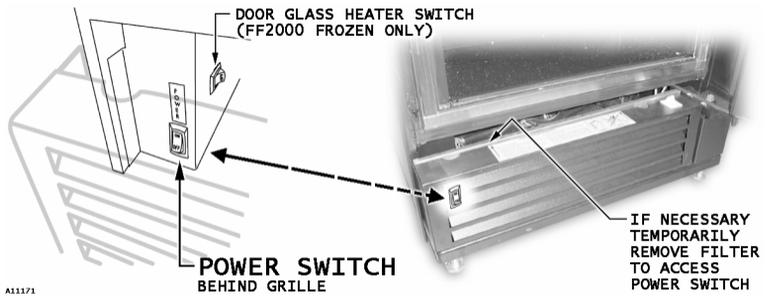

Figure 4.11. Power Switch Located Behind Filter
12. Plug the host vendor and the Satellite Food Vendor into their electrical power source and turn on power. The Satellite Food Vendor power switch is located on the bottom left behind the filter. Refer to **Figure 4.11**.